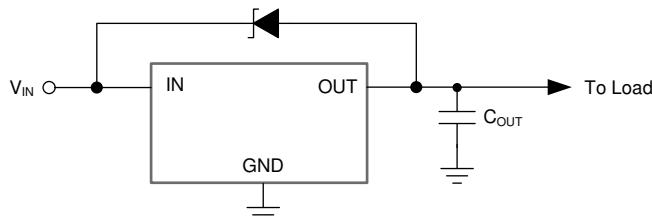

Figure 8-10. Zener Diode Placed from IN to OUT
- Place a zener diode from IN to OUT to provide a small positive dc bias on the output when the input is supplied to the device, as shown in Figure 8-10.